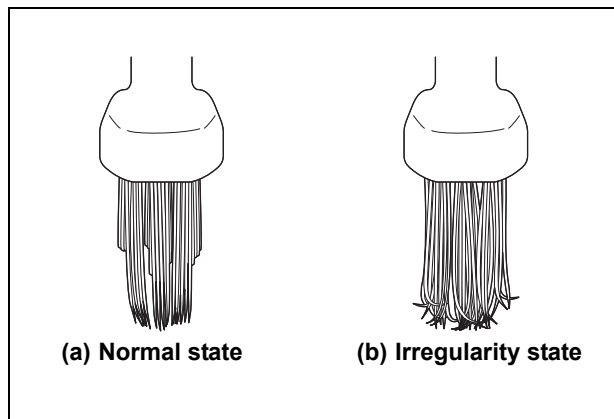

Figure 2.27
5. Replace brush with a new one if any irregularity is observed during the inspection (see Figure 2.27 (b)). An irregular, abnormal, or damaged brush can reduce the cleaning efficacy.